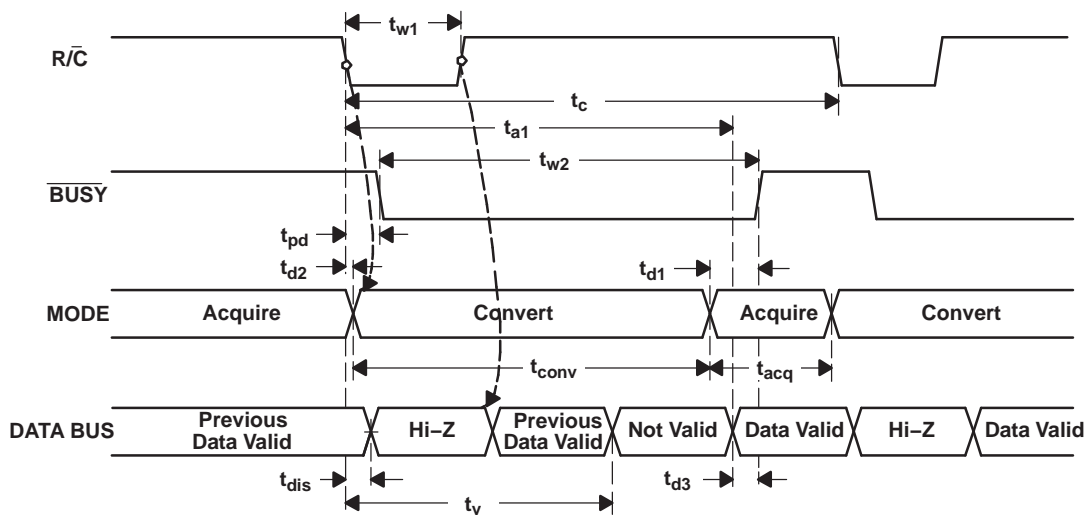
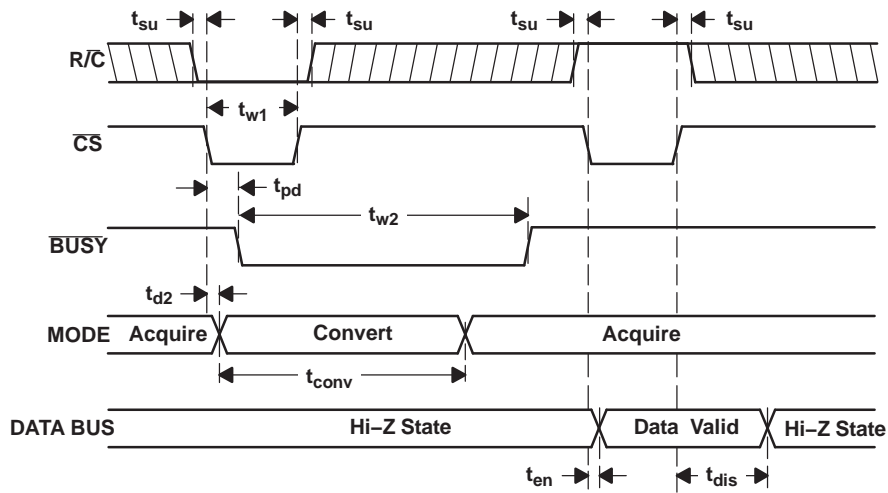
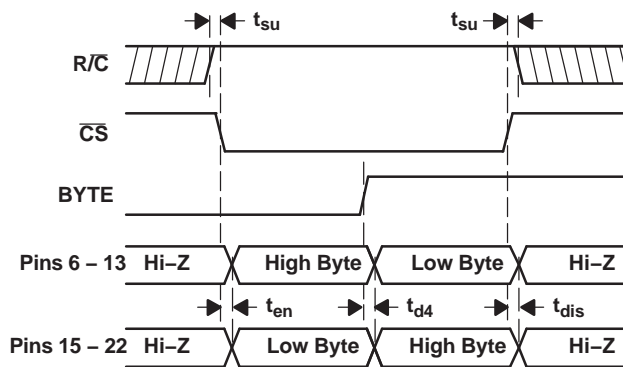

Figure 23. Conversion Timing with Outputs Enabled after Conversion (\overline{CS} Tied Low)
Figure 24. Using \overline{CS} to Control Conversion and Read Timing
Figure 25. Using \overline{CS} and BYTE to Control Data Bus
The ADS8505 begins tracking the input signal at the end of the conversion. Allowing 4 μ s between convert commands assures accurate acquisition of a new signal. Refer to Table 1 for a summary of \overline{CS} , R/\overline{C} , and \overline{BUSY} states and Figure 23 through Figure 25 for the timing diagrams.
(1) See Figure 23 and Figure 24 for constraints on data valid from conversion $n-1$.
After conversion *n* is completed and the output registers have been updated, BUSY (pin 26) goes high. Valid data from conversion *n* is available on D15-D0 (pins 6-13 and 15-22). BUSY going high can be used to latch the data. Refer to Table 3, Figure 23, Figure 24, and Figure 25 for timing specifications.
After conversion *n* has been initiated, valid data from conversion *n-1* can be read and is valid up to *t*₂ (2.2 μs typ) after the start of conversion *n*. Do not attempt to read data from *t*₂ (2.2 μs typ) after the start of conversion *n* until BUSY (pin 26) goes high; this may result in reading invalid data. Refer to Table 3, Figure 23, Figure 24, and Figure 25 for timing specifications.
The number of control lines can be reduced by tying \overline{CS} low while using the falling edge of R/\overline{C} to initiate conversions and the rising edge of R/\overline{C} to activate the output mode of the converter. See Figure 23.